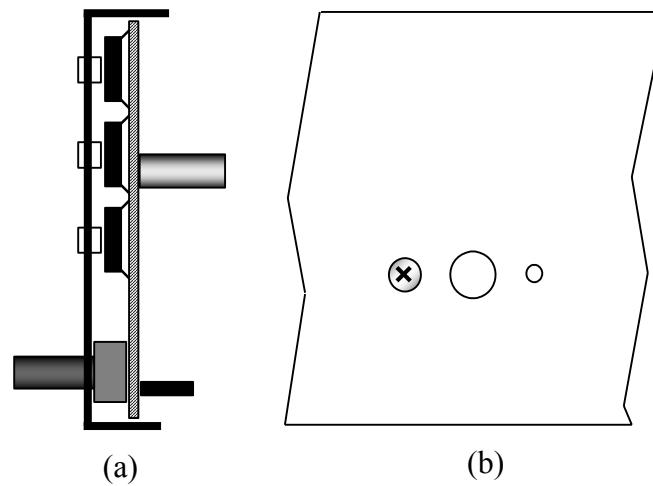

**Figure 5-16**
- Install the bare wires on the bottom of the front panel PC board, using the four pads below the large rectangular hole (Figure 5-16).